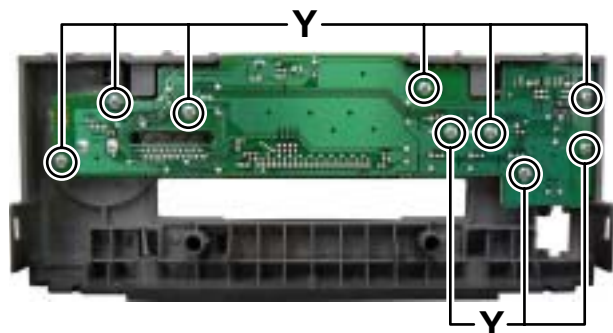

Fig.19
3.1.13 Removing the Front board (See Fig.19)